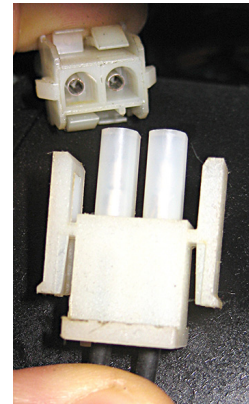

Figure 2
5. Disconnect 2-pin blower power connection (see Figure 2).